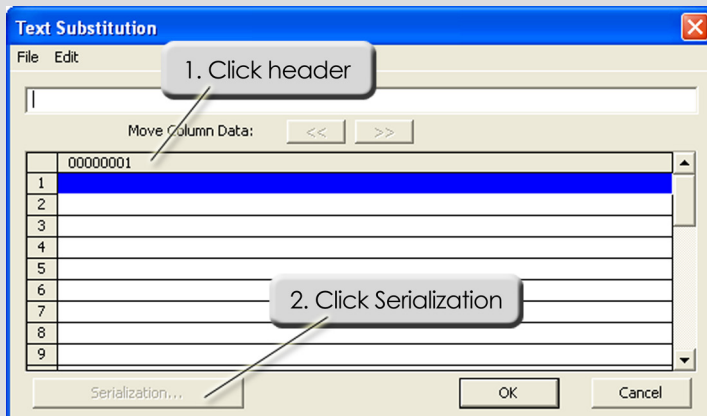

Fig. 64 - Clicking the header will select all the cells within that column, and then the **Serialization** button can be clicked to create a series.
5. The **Text Substitution** dialog will open (Fig. 64).